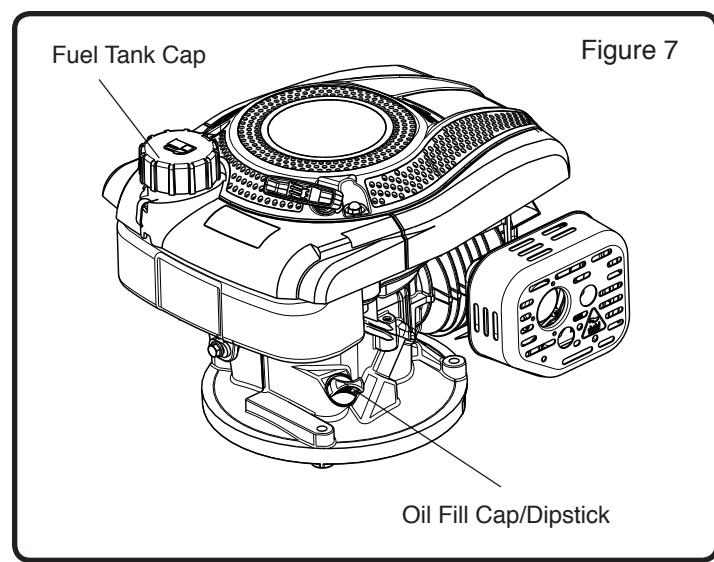

Figure 7
1. Clean surface around fuel tank cap to prevent contaminations. Refer to Figure 7 for location of fuel cap.